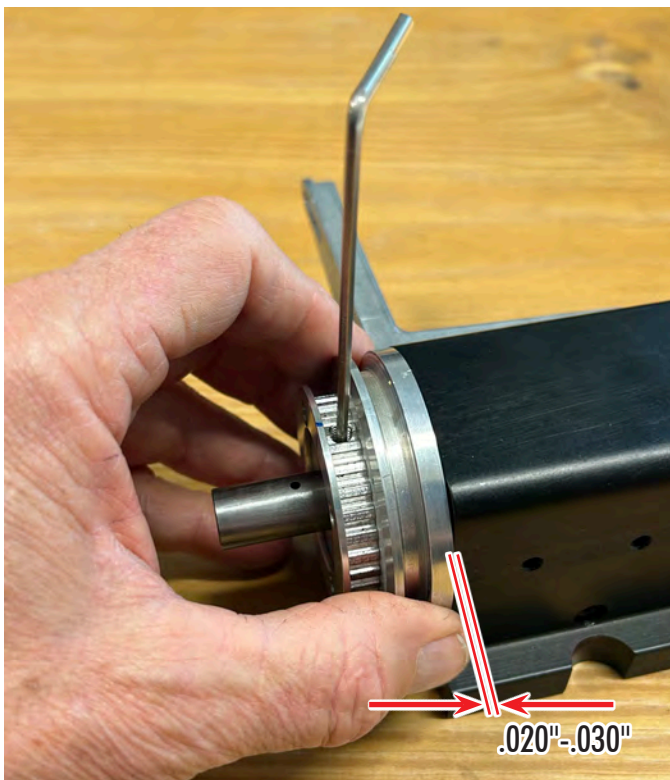

FIGURE 10
G. Push the pulley assembly on until there is a .020" - .030" (.50 - .75mm) gap between the front of the pulley and the back of the headstock. Tighten the set screw in the cog pulley. Then tighten each of the 5-40 screws (see Figure 10).